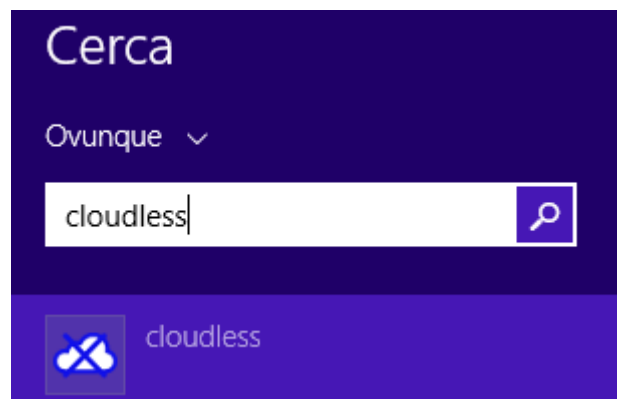

Figure 4: finding cloudless application
1. Start the cloudless application from the window programs menu or typing “cloudless” directly in the window start menu (Figure 4)